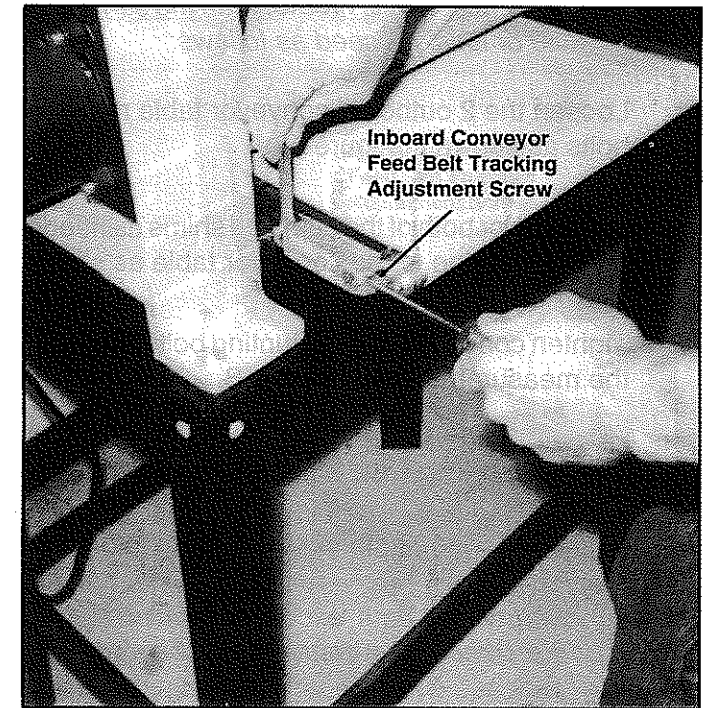

Figure 14
1. Conveyor feed belt tracking adjustment screws are located on both the inboard and outboard sides on the rear of the wide drum sander. (See Figures 14 and 15.)
5. Reduce tension on the conveyor feed belt by rotating both the inboard and outboard conveyor feed belt tracking adjustment screws in a counterclockwise direction. (See Figures 14 and 15 in the *Conveyor Feed Belt Tracking Adjustment* section for reference.)